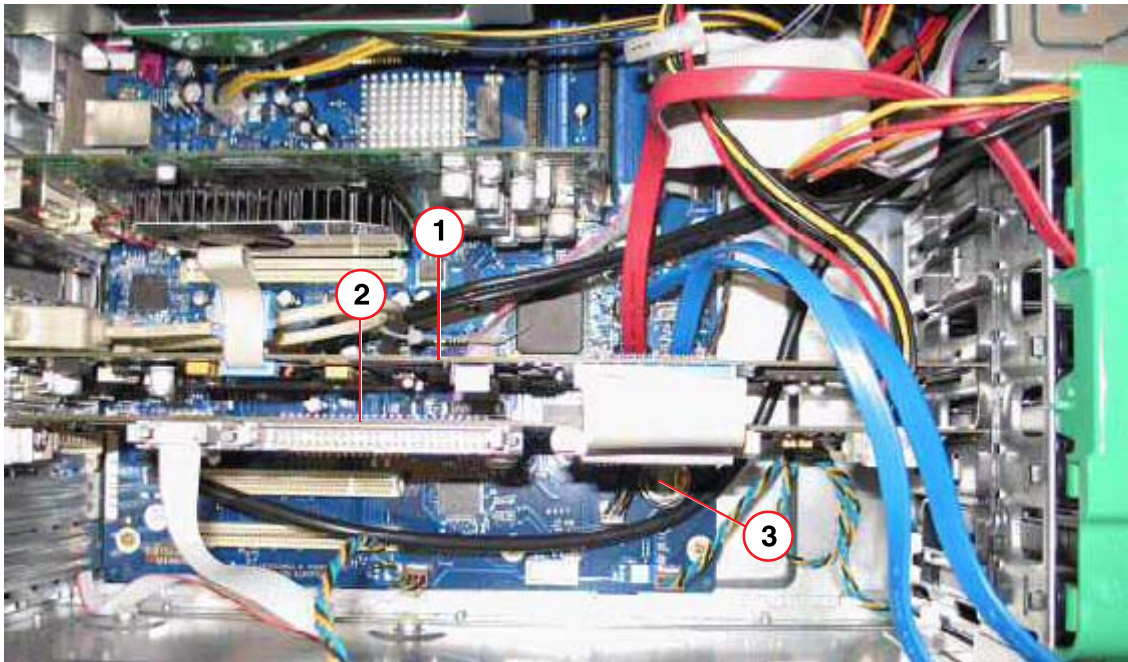
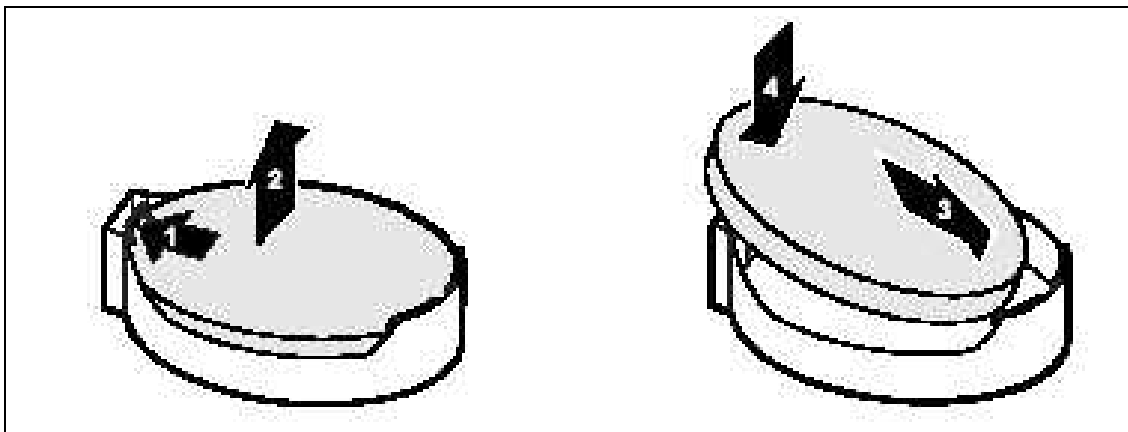

Fig. 39: PC\_components
Fig. 40: Replacing the lithium battery
2. Press the locking lug in the direction of the arrow (1/Fig. 40 / p. 64); the battery gently pops out of the holder (2/Fig. 40 / p. 64) and remove the battery (3/Fig. 39 / p. 64).
3. Push the new lithium battery of the identical type into the holder (3/Fig. 40 / p. 64) and press it downward until it engages (4/Fig. 40 / p. 64).